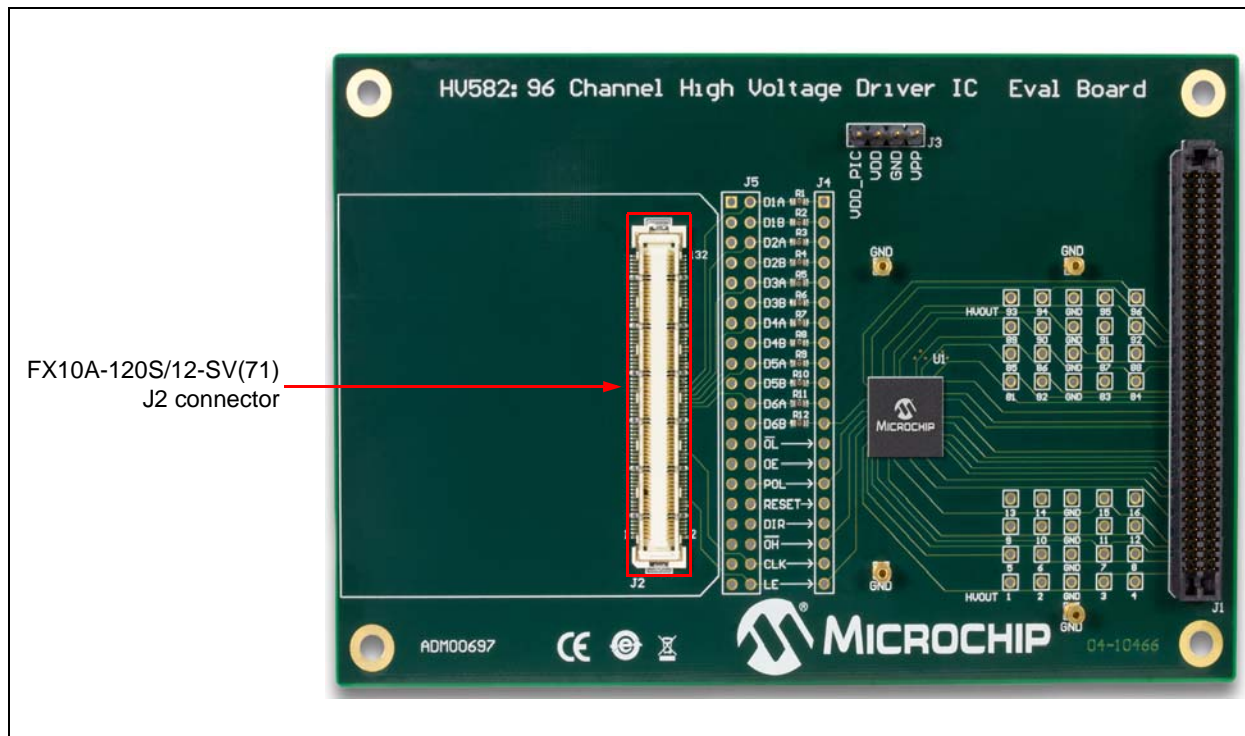

FIGURE 2-4: FX10A-120S/12-SV(71) connector, J2.
The HV582 96-Channel High-Voltage Driver IC Evaluation Board can be operated by the Microchip PIC32 Starter Kit (DM320001) via the FX10A-120S/12-SV(71) connector, J2 (see Figure 2-4).